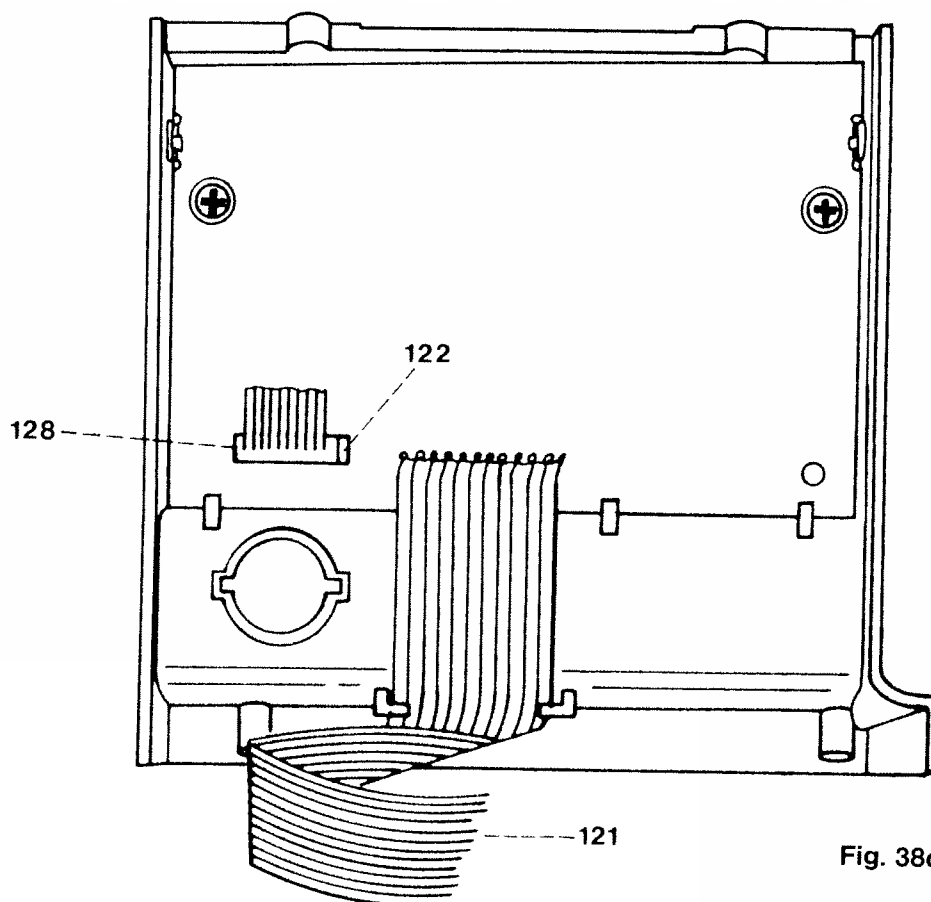

Fig. 38c
- Push lock 122 a little to the side (Fig. 38c).
- Install the new stepping motor (Fig. 38c).